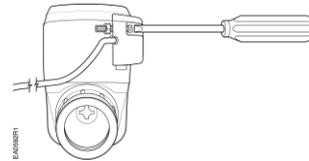

Figure 6. Tighten the Screw.
6. Tighten the screw to hold the connector in place. See Figure 6.